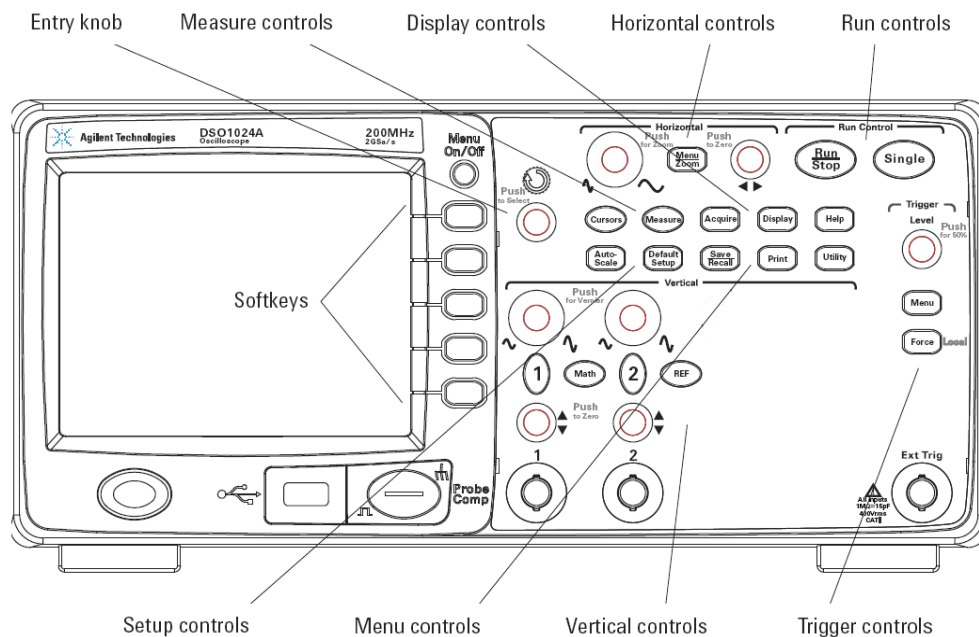
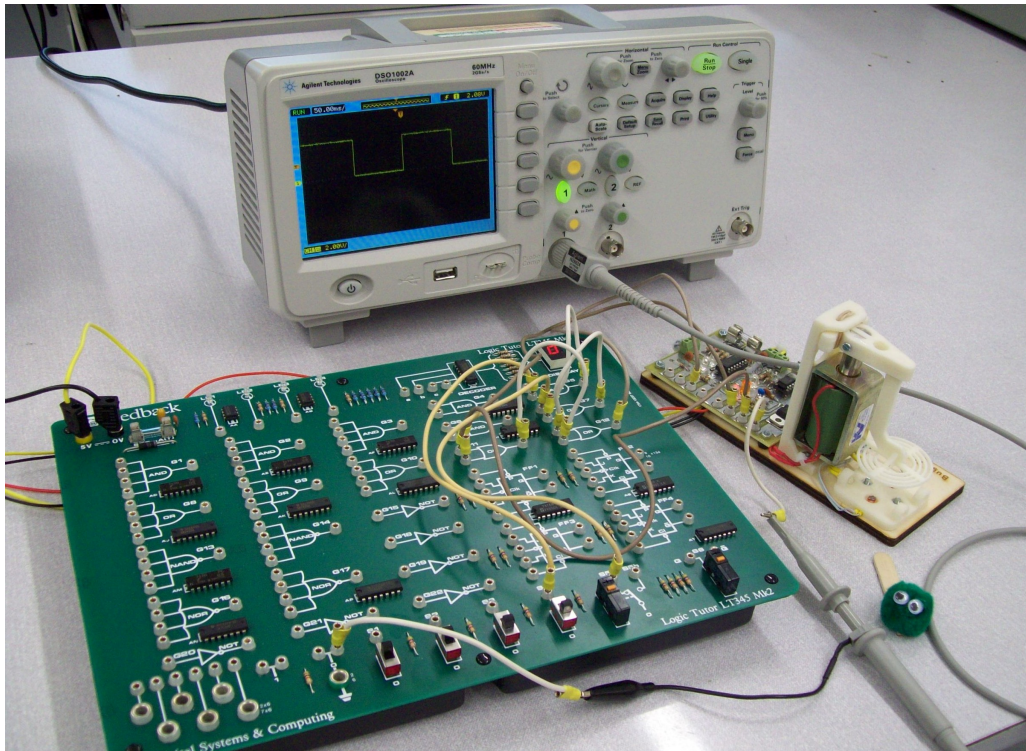

Figure 7 : An oscilloscope
Figure 8 : oscilloscope setup
To view this electrical waveform we can also use an oscilloscope (scope), as shown in figures 7. This piece of test equipment allows you to view voltage signals as a graph, the vertical axis is the voltage level and the horizontal axis time.
To connect a scope probe, align, push, then twist the connector onto the silver BNC connectors labelled 1 located at the bottom middle. Using the normal connecting wires, clip the probe onto the square wave output (OSC), then connect the black crocodile clip to the logic '0' (0V) socket, as shown in figure 8. To view this waveform, press the 'Auto-scale' button within the Setup controls panel, locate in the middle of the scope, as shown in figure 7. This will configure the scopes internal circuitry to correctly display this waveform. Using the scope measure the signals maximum and minimum voltage level and the square wave period (time high + time low).
**Note**, sometimes auto-scale doesn't work, you may have to manually set up the scope as shown in the bottom right of figures 8 and 9. If you are not sure how to do this, do ask.